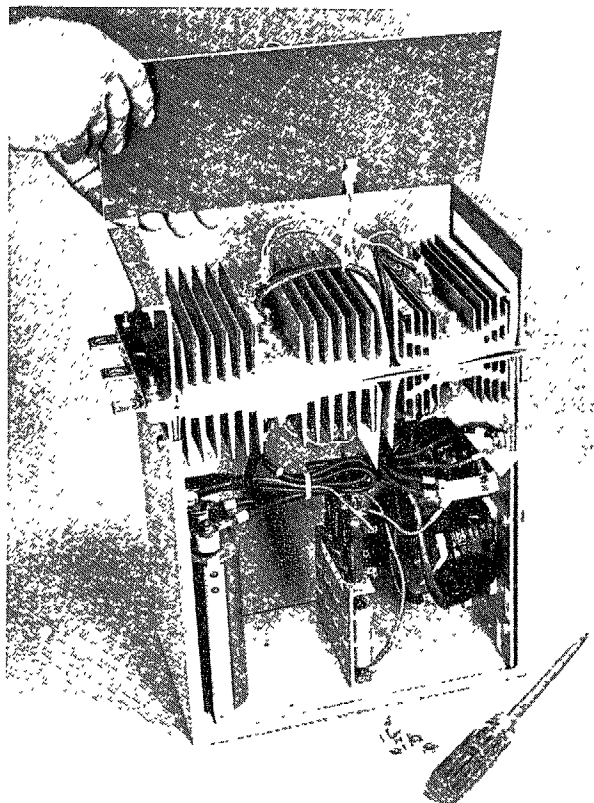

FIGURE 23
4. Remove four (4) machine screws and nuts that secure the front red plastic insulation cover to the inverter phase module.
5. Fold back the cover, thereby, exposing the stud mounted SCR heatsinks. The remaining wire harnesses should support the front insulation cover while removing and replacing the defective stud mounted SCR cell. See Fig 23